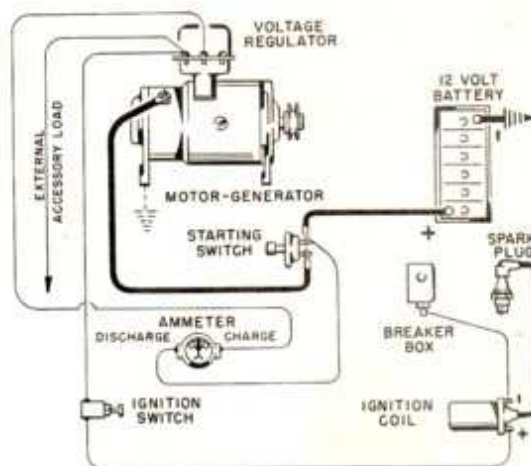

Fig. 14, WIRING DIAGRAM
**Battery ignition engines**, in which the low battery voltage is transformed to high voltage by an ignition coil, are wired in accordance with Fig. 14. This type ignition system has always been wired *negative ground*. Battery is not furnished by Wisconsin Motor Corporation.